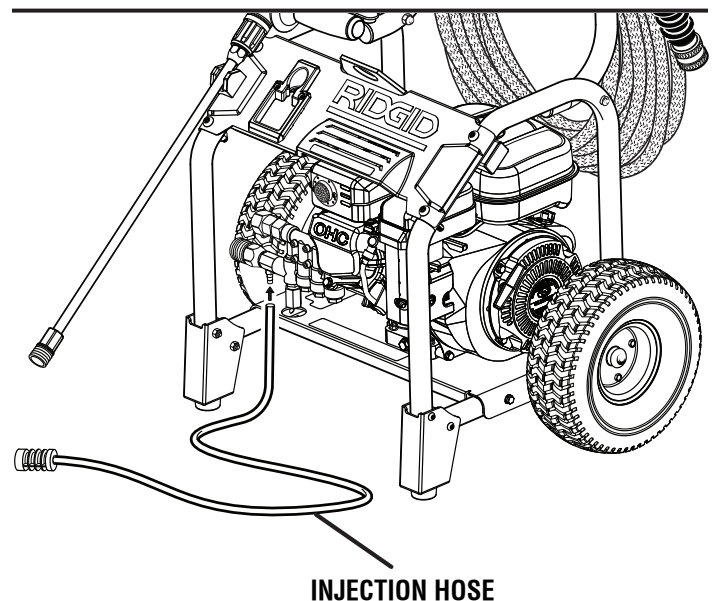

Fig. 9
See Figure 9.
- Push the open end of the clear injection hose securely over the fitting as shown in figure 9.